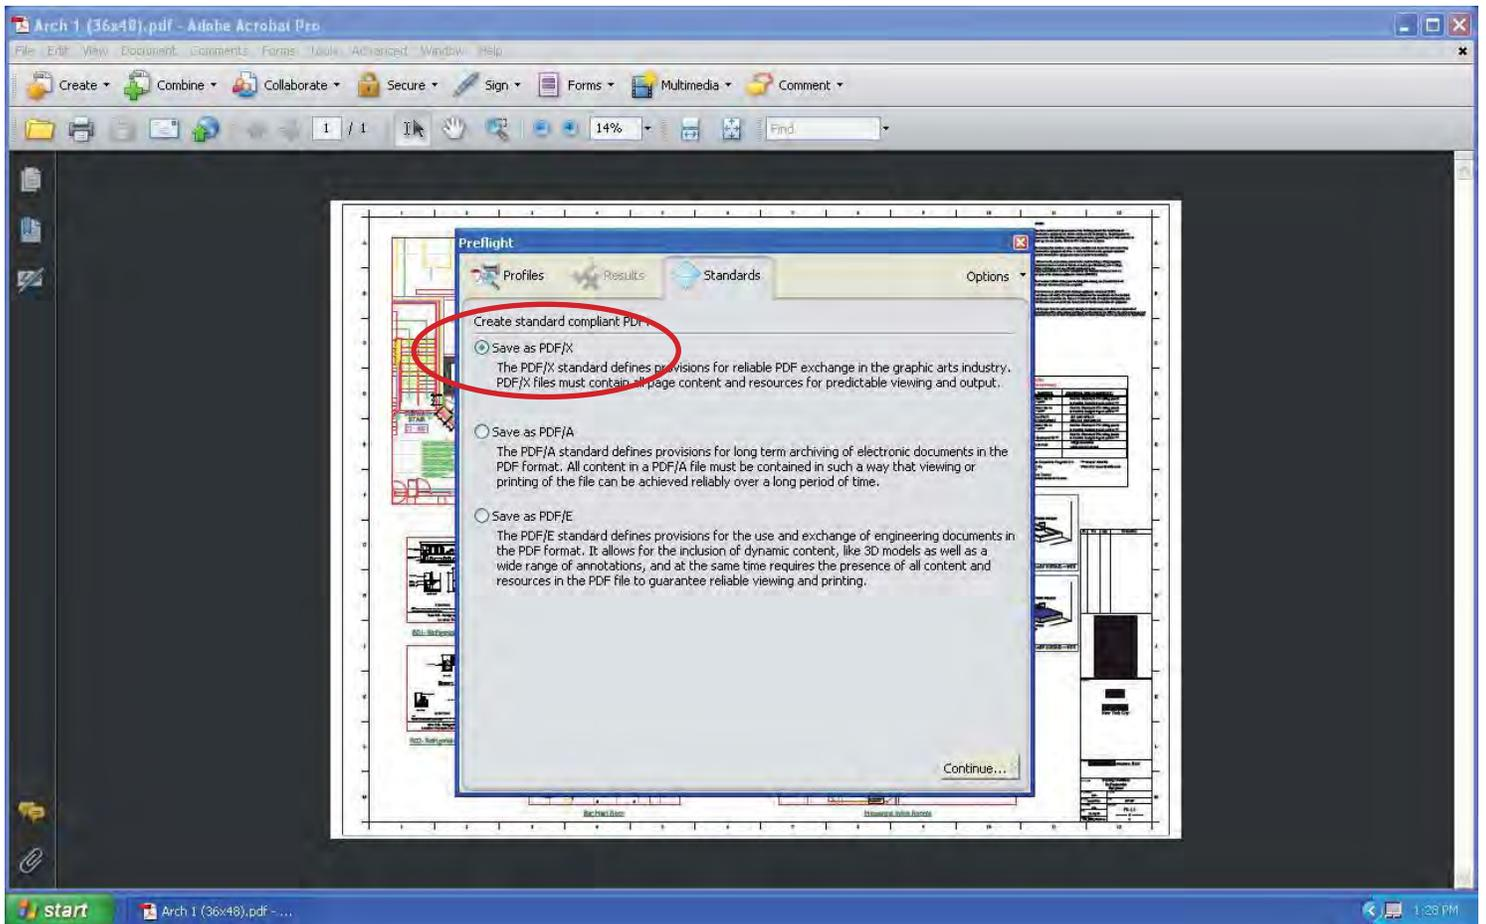

Fig. 3
1. Select Preflight from the Advanced menu (Fig 3).